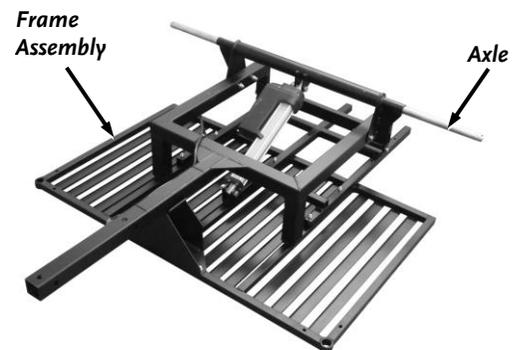

Figure 8
1. Position the Rear Frame/Collector Base Assembly upside down (Figure 8).